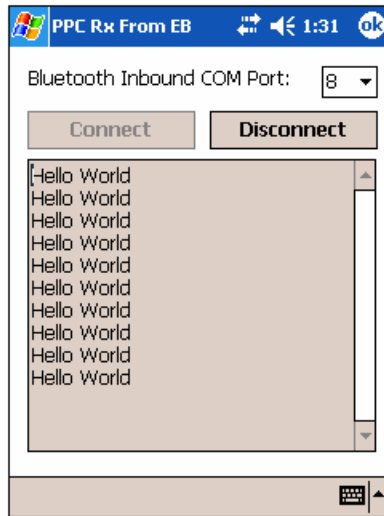

Figure 15: PPCRxFromEB Pocket PC Application
9. Run the **PPCRxFromEB** application (Figure 15).